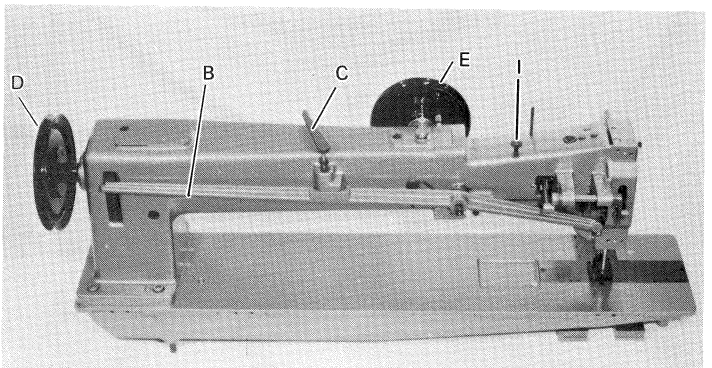

Fig. 31
1. Turn the machine pulley or hand wheel (Fig. 31 D & E) until the top of the opener is located at the distance from the needle plate.
2. In this position, adjust it so that the clearance between the inside edge of the opener (A) and the top of the hook is about 0.3 - 0.8 mm.
3. Securely tighten the screw (B) after finished adjustment.